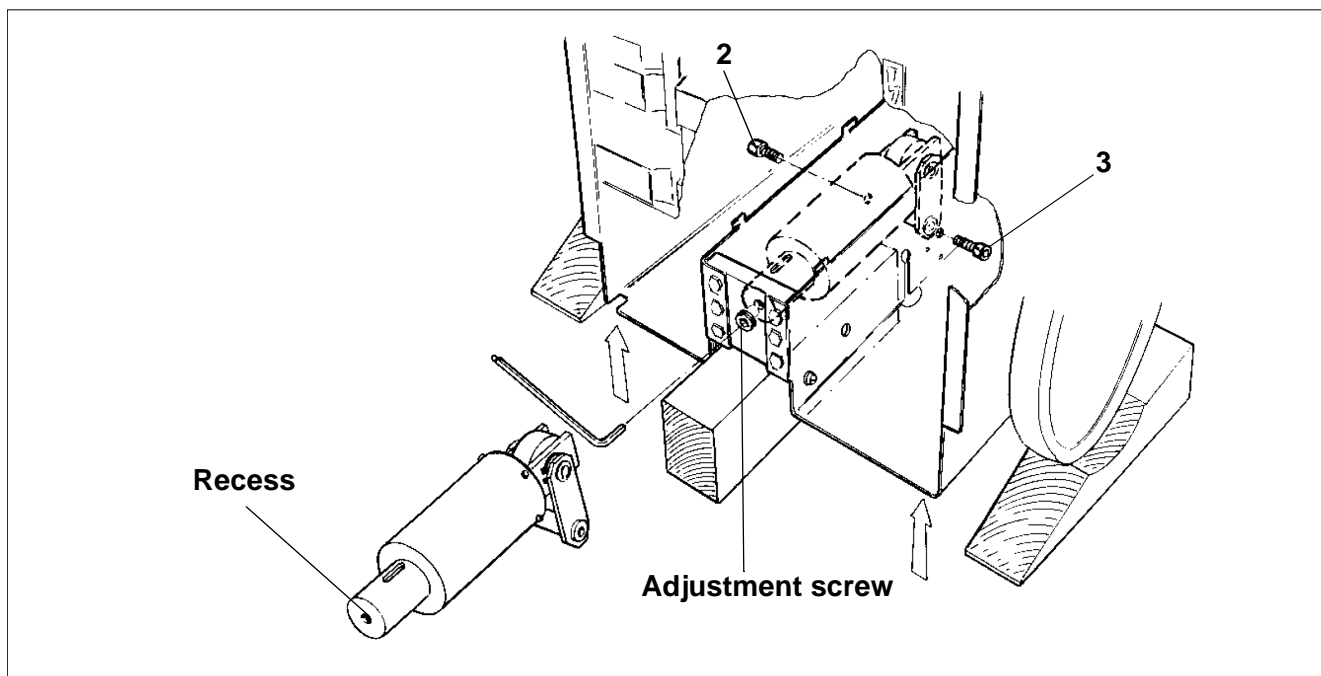

Fig. 13
- Loosen the adjustment screw so that the spring pack is loosened and the nearest part of the pack is lowered (Fig. 13).
- Loosen the two large Allen screws (2) and (3) on the end of the spring pack. The whole spring pack will then fall down on the floor.
- Install the new spring pack with the two Allen screws (2) and (3) on the end of the spring pack.
- Tighten screws (2) and (3).